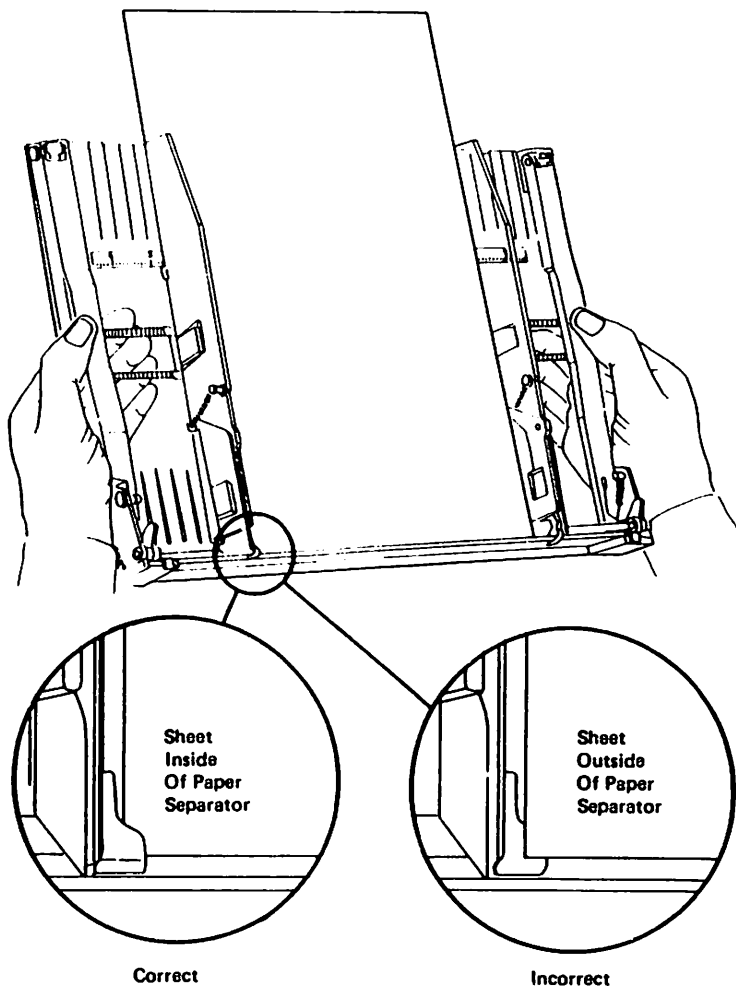

Figure 28 Paper separators
5. Make sure the sheets of the paper stack are inside the paper separators as shown in Figure 28 and the left and right hopper arms are latched down.